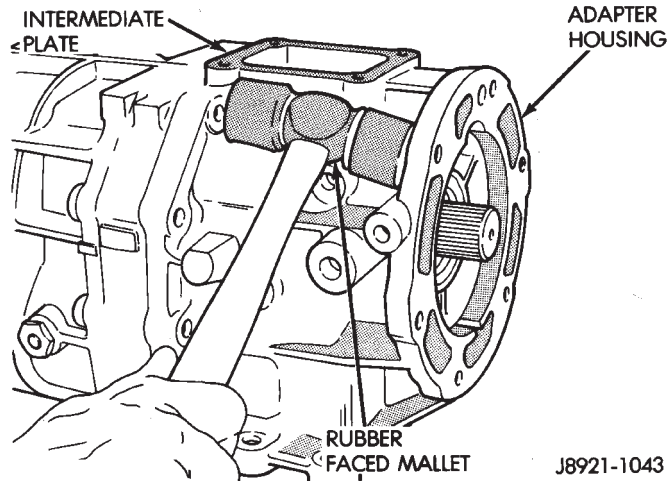

Fig. 26 Loosen Adapter/Extension Housing
- (15) Remove adapter/extension housing bolts.
- (16) Loosen adapter/extension housing by tapping it loose with plastic mallet (Fig. 26).